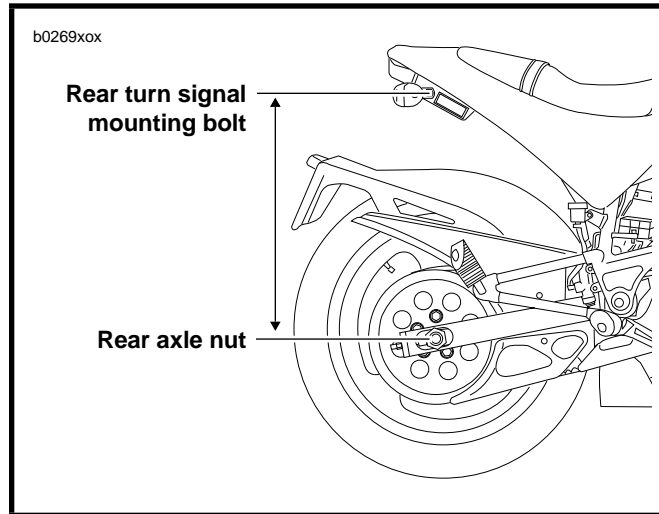

Figure 6. Checking Rear Preload
4. See Figure 6. Measure the distance from the center of the rear axle nut to the rear turn signal mounting bolt **without** rider/passenger/cargo/accessories on the motorcycle.